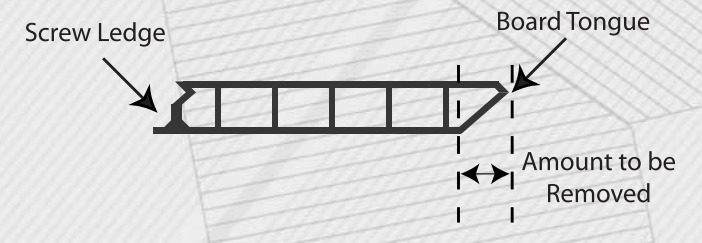

Figure 3b: Starter Board
2. Rip the tongue from the starter board. The starter board can be installed with the tongue if desired, however by doing so, the contact area with the ledger board is lessened. See Figure 3b.